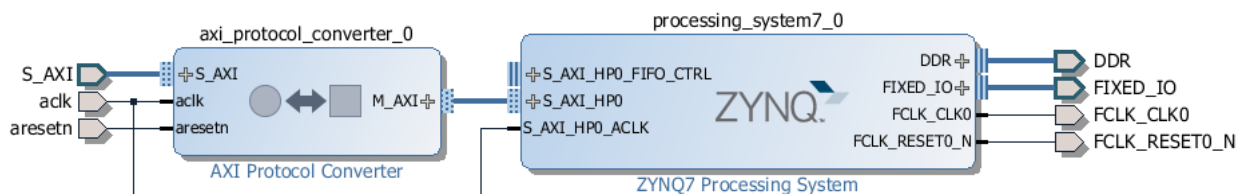

Figure 3. The processor system
- The design looks like as shown in Figure 3.